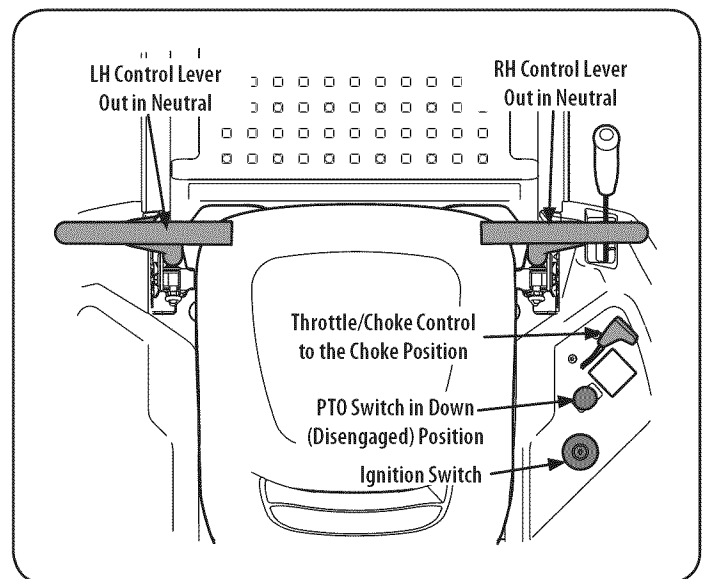

Figure 8
2. Make certain the PTO switch is in the disengaged (down) position. Refer to Figure 8.